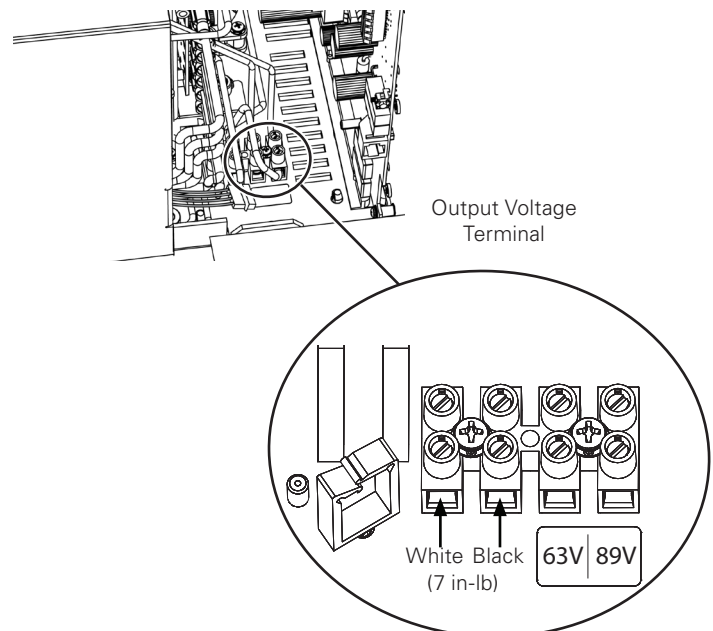

Fig. 2-13, Voltage Terminal Location and Wire Position
2. Loosen the terminal screw and move the output voltage wire to the desired output voltage position on the output voltage terminal (see Fig. 2-13).